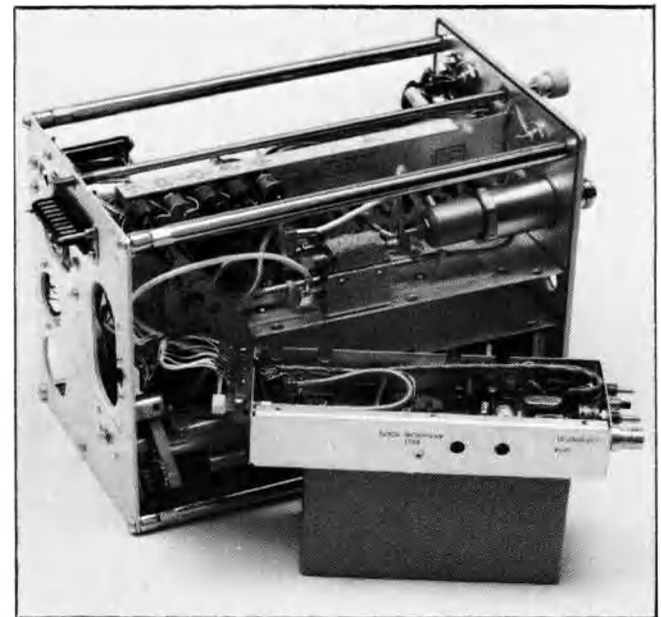
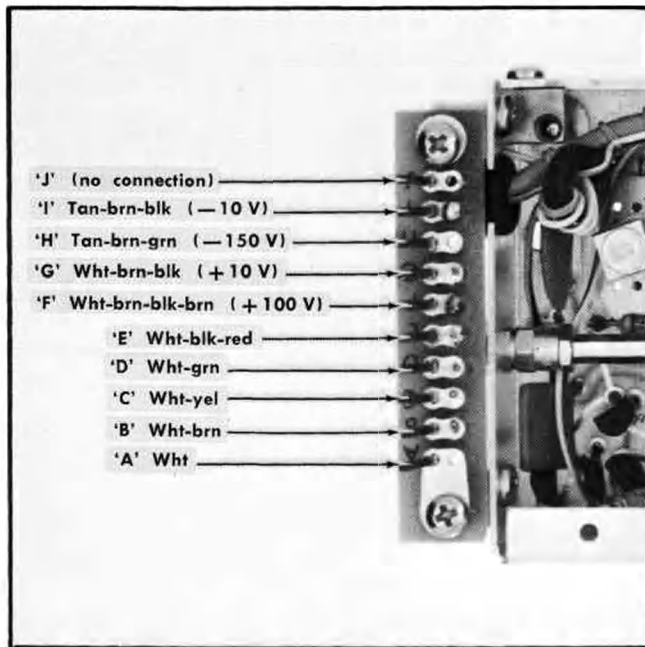

Fig. 4-7. Phase lock assembly removed and ready to troubleshoot.
Fig. 4-8. Wiring color code to phase lock assembly pin connectors.
7. Support the phase-lock assembly on a small block (see Fig. 4-7), then connect the signal lead from the oscillator to J855. Check the lead dress and all connectors to insure that no short circuit exists and all connections are correct (see Fig. 4-8). Power can now be applied and the phase-lock circuit checked for correct voltages and waveforms. Fig. 4-11 illustrates component layout on the circuit board.
2. Refer to the Phase Lock diagram and Fig. 4-8 for the correct voltage and signal cable hook up. Make certain the dot on the FINE RF CENTER FREQ control is indexed at the center of the control range when the knob is replaced.